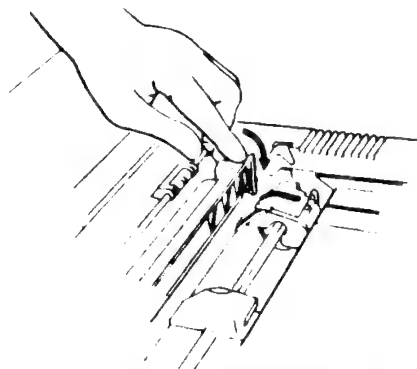

Figure C-13 Latching the Bail Roller Unit
- b) Rotate the Bail Roller Unit in the direction shown in Figure C-13, until it is locked into place by the printer's front studs.